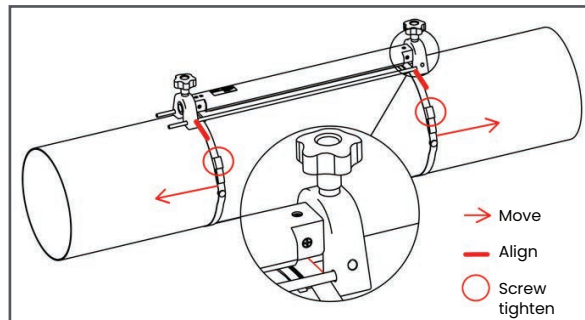

Figure 10: 2 Traverse Installation with 1 Clamp-on Fixture
Before removing the AT620 system from the crate, please inspect the flow meter. Before discarding any of the packing materials, account for all components and documentation listed on the packing slip. The discarding of an important item along with the packing materials is all too common. If anything is missing or damaged, contact Panametrics customer care immediately for assistance. Please note that the AT620 system (see *Figure 10* below) is available in a variety of configurations to meet your needs, so the packing list will vary for each system. As an example, a typical packing list is:
- c. Hold the fixture against the pipe and move the mounting straps onto the fixture. Then, tighten the screws on the straps, and verify that the straps remain in place on the fixture (see *Figure 10 below*).